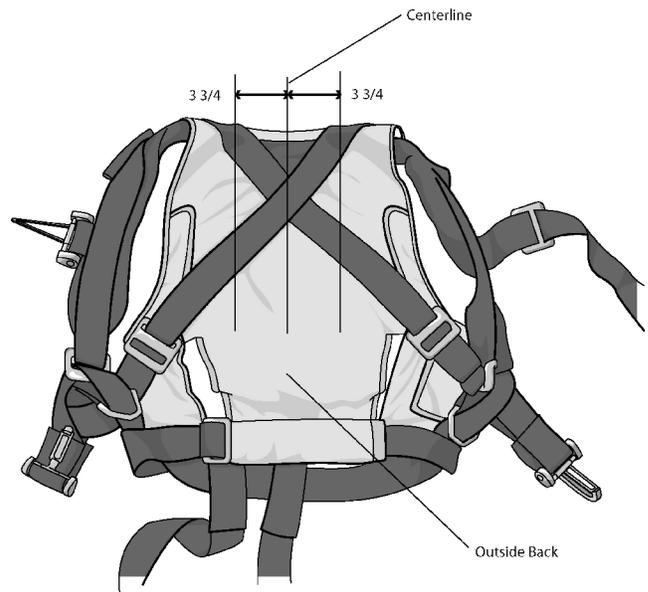

Figure 5. Marking Location of Outer Guide Straps
(1) Lay out torso harness with the outside back surface facing up.
(2) Using a white pencil or equivalent, mark a centerline on the back of the harness.
(3) Mark the intersecting points of the back and shoulder cross straps.
(4) Mark parallel lines both to the left and right of the centerline measuring 3 3/4-in. from the line (Figure 5).